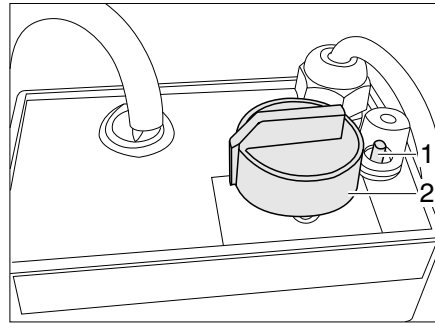

Fig. 315 Regulator for electrical floor warming/bed warming unit
- Turn the control knob (Fig. 315,2) to the desired heating level.
- Turn the control knob (Fig. 315,2) to the setting "0".
If the regulator is overloaded, the overload protection is actuated. The pin (Fig. 315,1) will trip.
- Press in the pin (Fig. 315,1) at the overload protection when the regulator has cooled down.